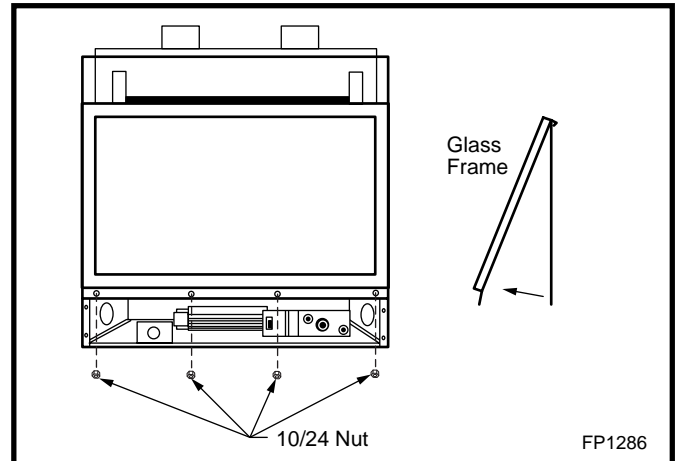

Fig. 17 Remove four screws to remove glass frame.
1. Remove four (4) bottom fastening screws with a 3/8" nut driver. (Fig. 17)